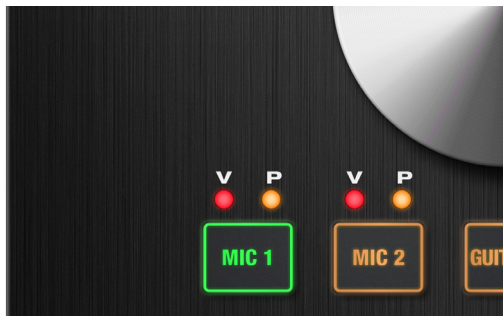

Figure 4-2: The phantom power (V) and pad (P) LEDs for the mic inputs
- 3 Push the corresponding *MIC 1* or *MIC 2* button on the Track16 to select the input (Figure 4-2).
- 5 The red “V” LED illuminates (Figure 4-2).